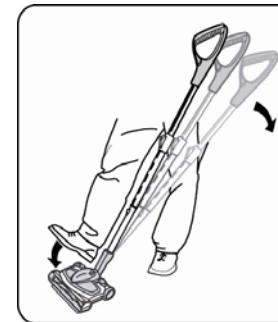

Fig. 8
3. To release the handle to a comfortable position, apply pressure to the top of the sweeper head with your foot while pulling back on the handle. (Fig. 8)